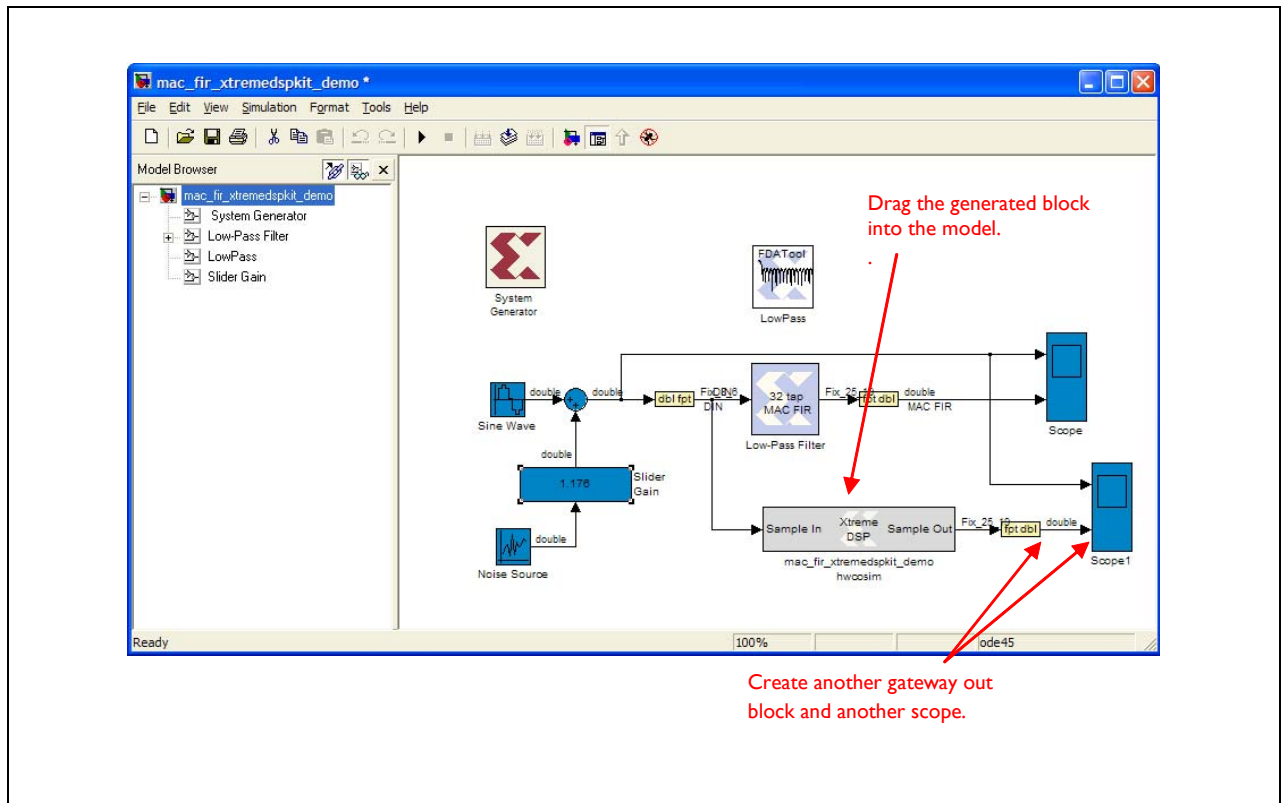

Figure 132: Adding the Runtime Cosimulation Block to the Model
4. Drag the generated block into the 'mac_fir_xtremedsplit_demo' model. Connect an output gateway block and another scope as shown in **Figure 132 on page 207**.